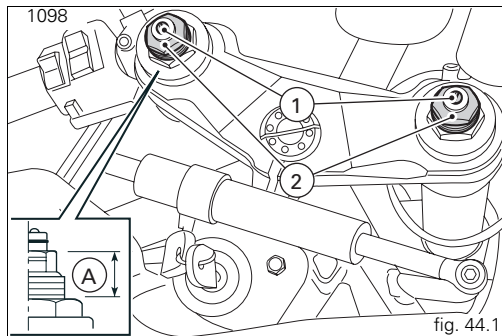
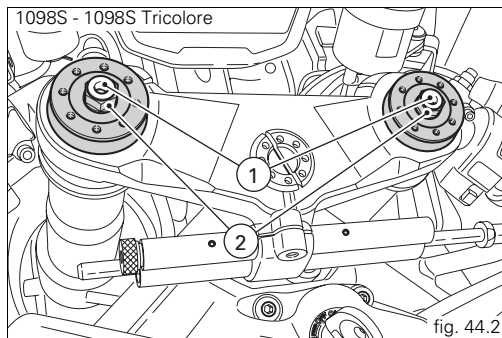

fig. 44.1
fig. 44.2
- 1) to adjust rebound damping (fig. 44.1 and fig. 44.2);
- 2) to adjust inner spring preload (fig. 44.1 and fig. 44.2);
Spring preload (1098)(A, fig. 44.1): 18 mm;
turn the adjuster with the hex end (2, fig. 44.1 and fig. 44.2)